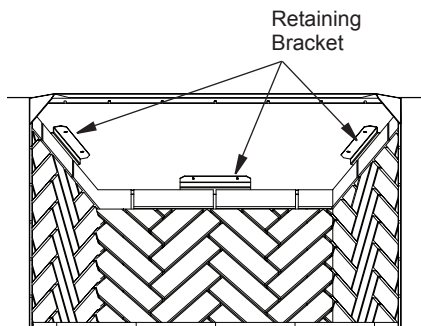

Figure 15 - Installing Side Walls
3. Secure the firebrick wall using 2 of the retainers provided. The bracket will slip underneath the metal lip on the top of the wall and screw into the inner dome of the fireplace (Figure 15).
4. Install the rear firebrick wall last. Place the wall face side down on the hearth with the bottom of the wall toward the rear of the firebox and the top toward the front of the fireplace. Tilt the wall up toward the back of the firebox. Secure with remaining retaining bracks provided (Figure 15).